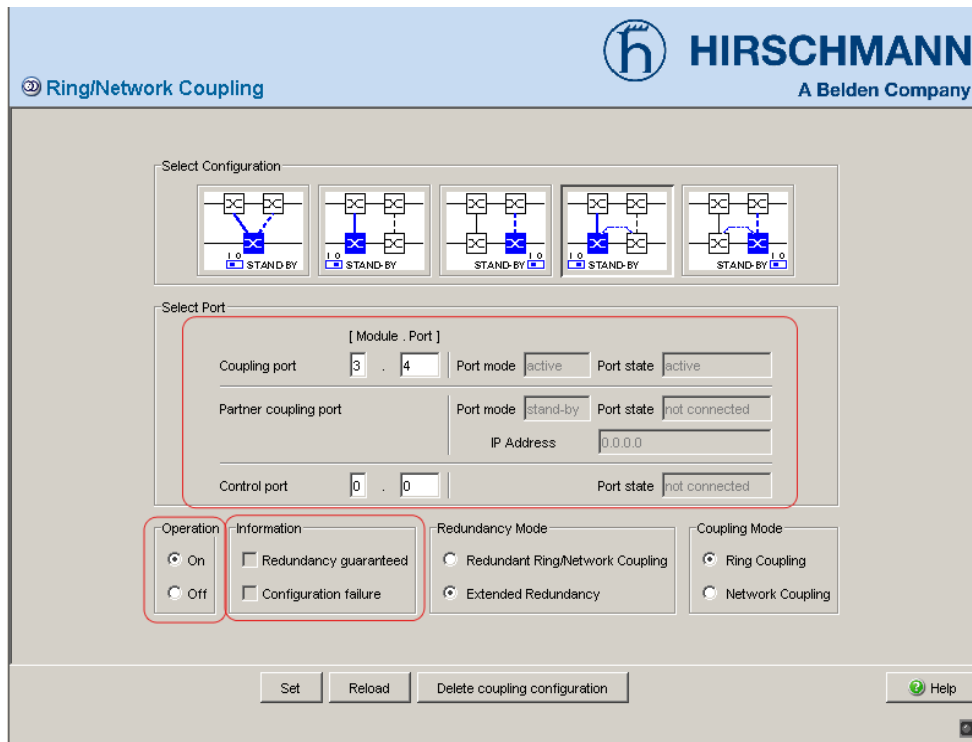

Figure 22: Selecting the port and enabling/disabling operation
- ☐ Select the coupling port (see fig. 22), (see table 10).
- ☐ Select the control port (see fig. 22), (see table 10).
- The displays in the “Select port” frame mean (see fig. 22):
The displays in the “Information” frame mean (see fig. 22):
The displays in the “Select port” frame mean (see fig. 22):